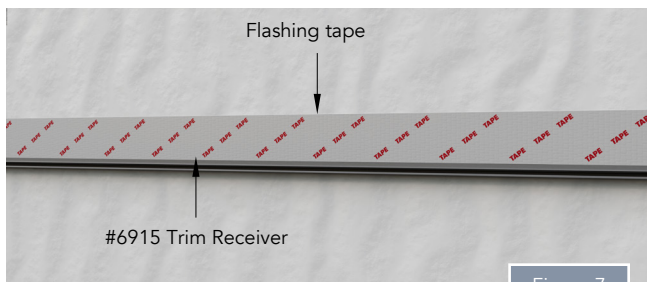

Figure 7
- Flash along Trim Receiver nailing hem for water management (as you would around doors and windows) (Figure 7).